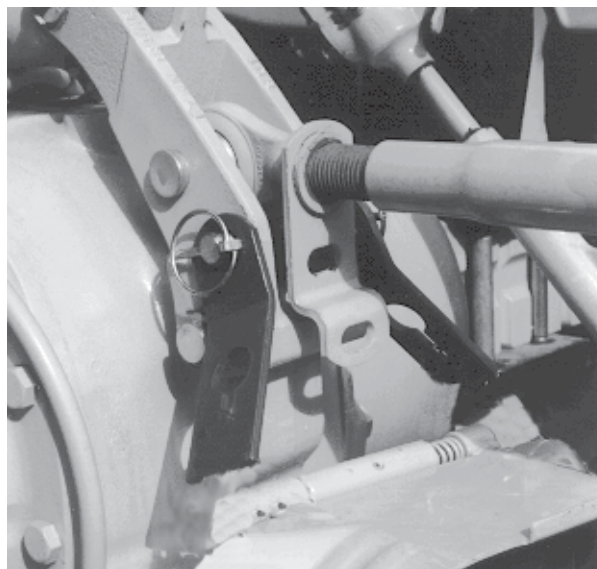

Figure 8
4. Fasten keyhole plates to the tractor toplinek using pins from the tractor (figure 8).